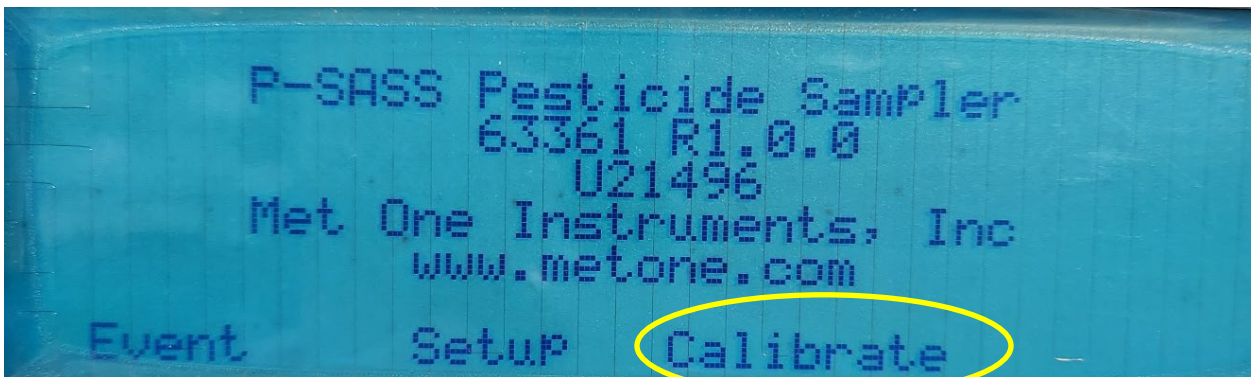

Figure 16: Main menu
3.3.3 From the main system display, press “**Calibrate**” (Figure 16).